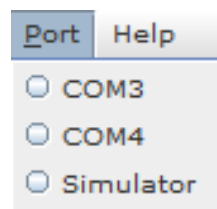

Figure 16 - Port Menu
2. Within the software, locate the **Port** menu and then select the correct COM port (see Figure 16). Following correct selection, installed modules will become highlighted on the diagram at the top of the main screen.